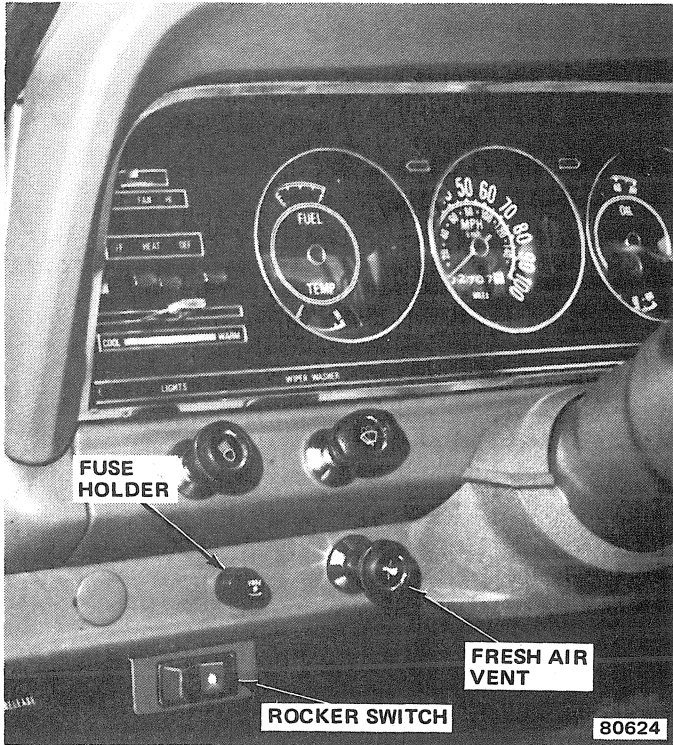

Fig. 3R-15 Fuse Holder and Switch Location—Typical
- (1) Position vehicle on a flat surface, facing and approximately 25 feet from wall.
- (2) Remove lamp stone shields (fig. 3R-16).
- (3) Loosen lamp attaching hardware. Turn headlamp and fog lamp switches ON (fig. 3R-15), adjust lamp beams as follows: